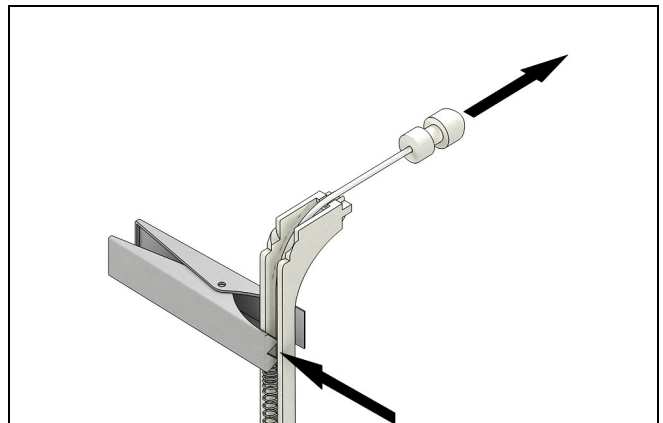
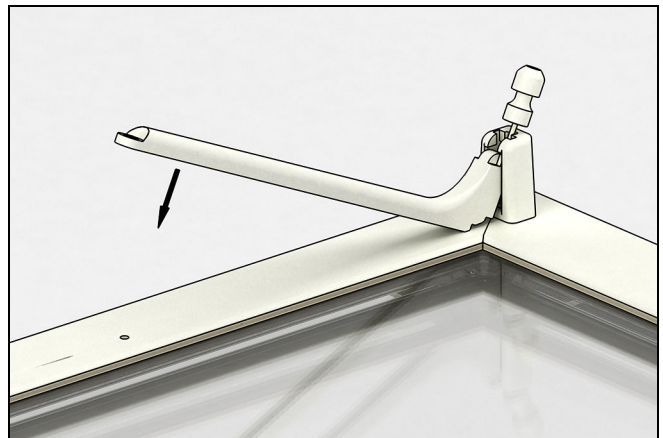

Figure 7 Swing housing into plug while holding spring.
Figure 8 Hold tether spring with tether spring clamp.
- Pull tether spring back and hold with tether spring clamp. See Figure 7 and Figure 8.